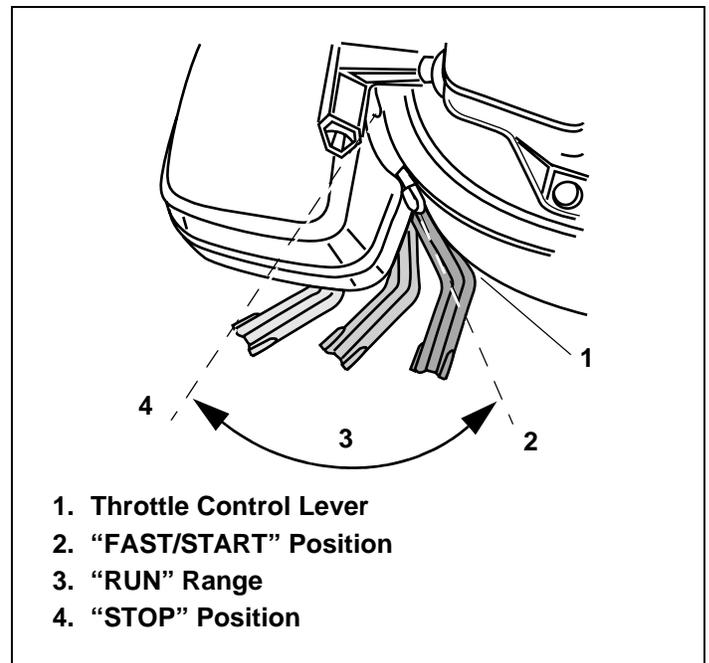

Figure 15. Variable Speed Engine Control
2. Move throttle control lever to “FAST” or “START” position, if present (see equipment manufacturer’s instructions). See Figure 15.
- c. Move throttle control lever to desired speed in “RUN” range. See Figure 15.